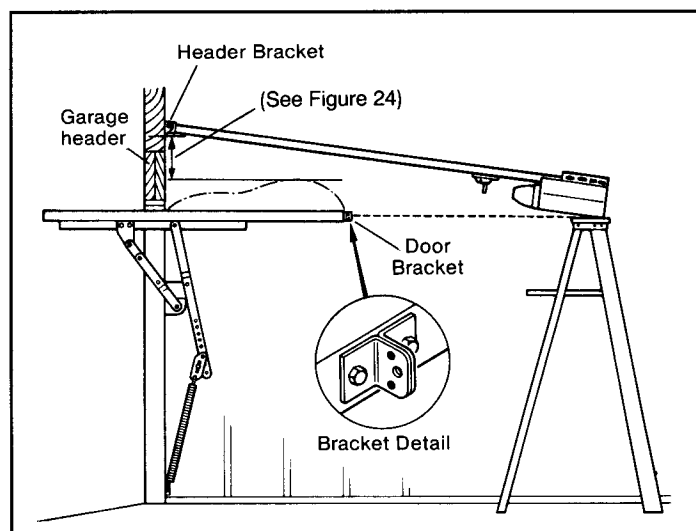

Figure 25
Step 41: Run the red striped two-conductor "DoorSentry" wire from the detector up the side of the door opening and over to the channel. Run the wire across the top of the channel to the operator terminals marked "Common" and "Ext. Obst." (see Figure 25). Push the **three (3) wire ties** provided into the holes of the first, center and last spreader brackets. Wrap ties around the wire and pull through slot to secure wire firmly.
until the power head is level with the top edge of the door when it is in the open position (see Figure 25). Temporarily maintain that position (on a ladder, for example) until the hanging material on the operator head is permanently mounted.
The door bracket and door arm assemblies for trackless doors are shown in Figures 25, 26, and 27.